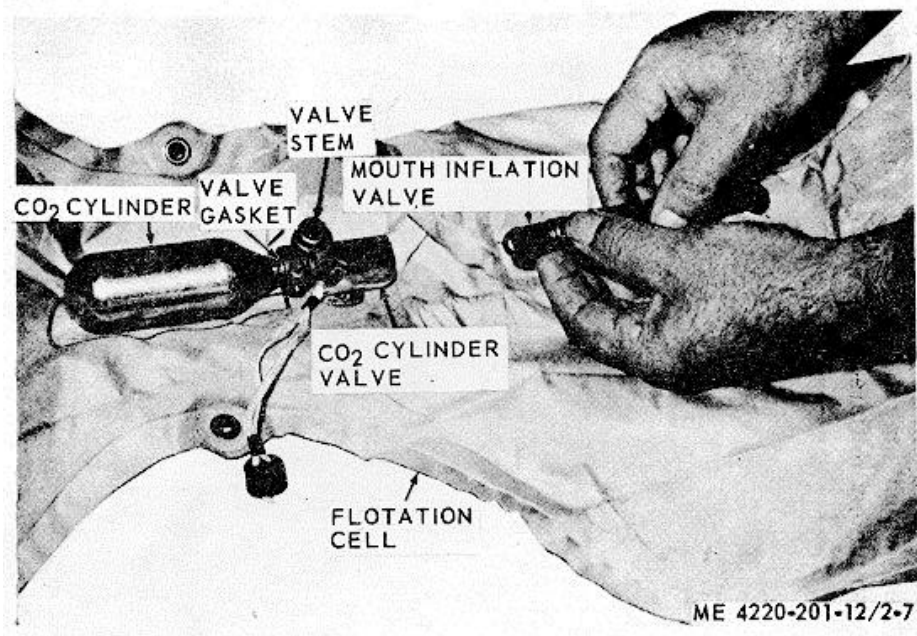
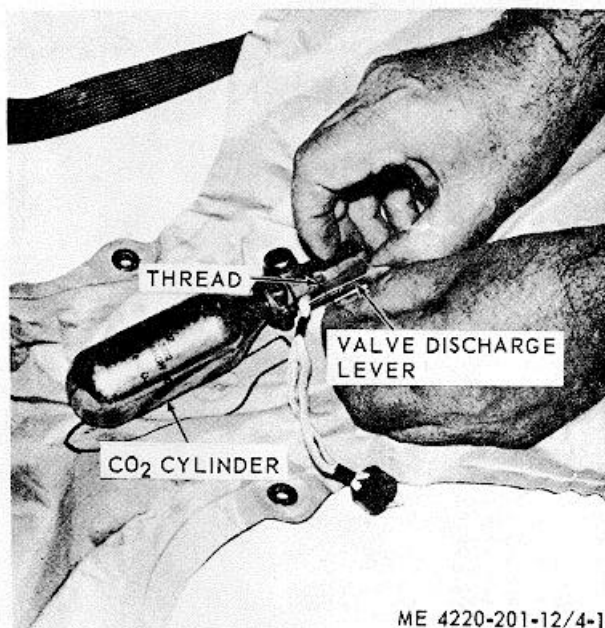

Figure 2-7. Mouth inflation valve.
Figure 4-1. Securing the valve discharge lever to the valve head.
(2) When necessary, additional inflation can be effected by opening the mouth inflation valve (fig. 2-7) and blowing air by mouth.
- (1) Depress the mouth inflation valve (fig. 2-7) and roll the flotation cell toward the mouth inflation valve.
- (2) Apply a vacuum to the depressed mouth inflation valve.
Inspect life preservers in service prior to use and every 90 or 120 days thereafter. IF the preserver flotation cells (fig. 2-7) are four years of age or older inspect the preserver every 90 days; if the cells are less than four years old inspect the preserver every 120 days. At least once yearly, inflate a percentage of preservers undergoing inspection with CO2 to insure proper functioning of the CO2 inflation system. Do not inflate the same preserver with CO2 more than once each year since repeated CO2 inflation may cause leaks in the cell fabric.
a. Attach the mechanical inflation system to the mouth inflation valve (fig. 2-7). Be sure the CO2 valve discharge lever (fig. 4-1) is in operating position. Install an empty CO2 cylinder in the inflator to prevent leakage.
d. Remove the cylinder and deflate the cells after they have passed the inflation test. Check the cylinder valve for proper operation and make sure gaskets (fig. 2-7) are installed. Return the valve discharge lever (fig. 4-1) to the closed position.
(1) For cylinder valve assemblies (fig. 2-7) having no set screw to secure the CO2 cylinder, apply thread sealant to cylinder threads after they have been engaged from one to two full turns. After applying the sealant, hand-tighten the cylinders and remove all excess sealant.
(2) When a CO2 cylinder is replaced, secure the valve discharge lever (fig. 4-1) to the valve
(4) Wipe the mouth inflation valve (fig. 2-7) clean, and carefully apply powdered graphite at the valve threads and seat.
(5) Apply powdered graphite to cylinder valves (fig. 2-7) that do not operate freely.
*d.* Make a safety tie on the valve discharge lever (fig. 4-1) with one turn #3 cord cotton thread, using a surgeon's knot and a locking knot.